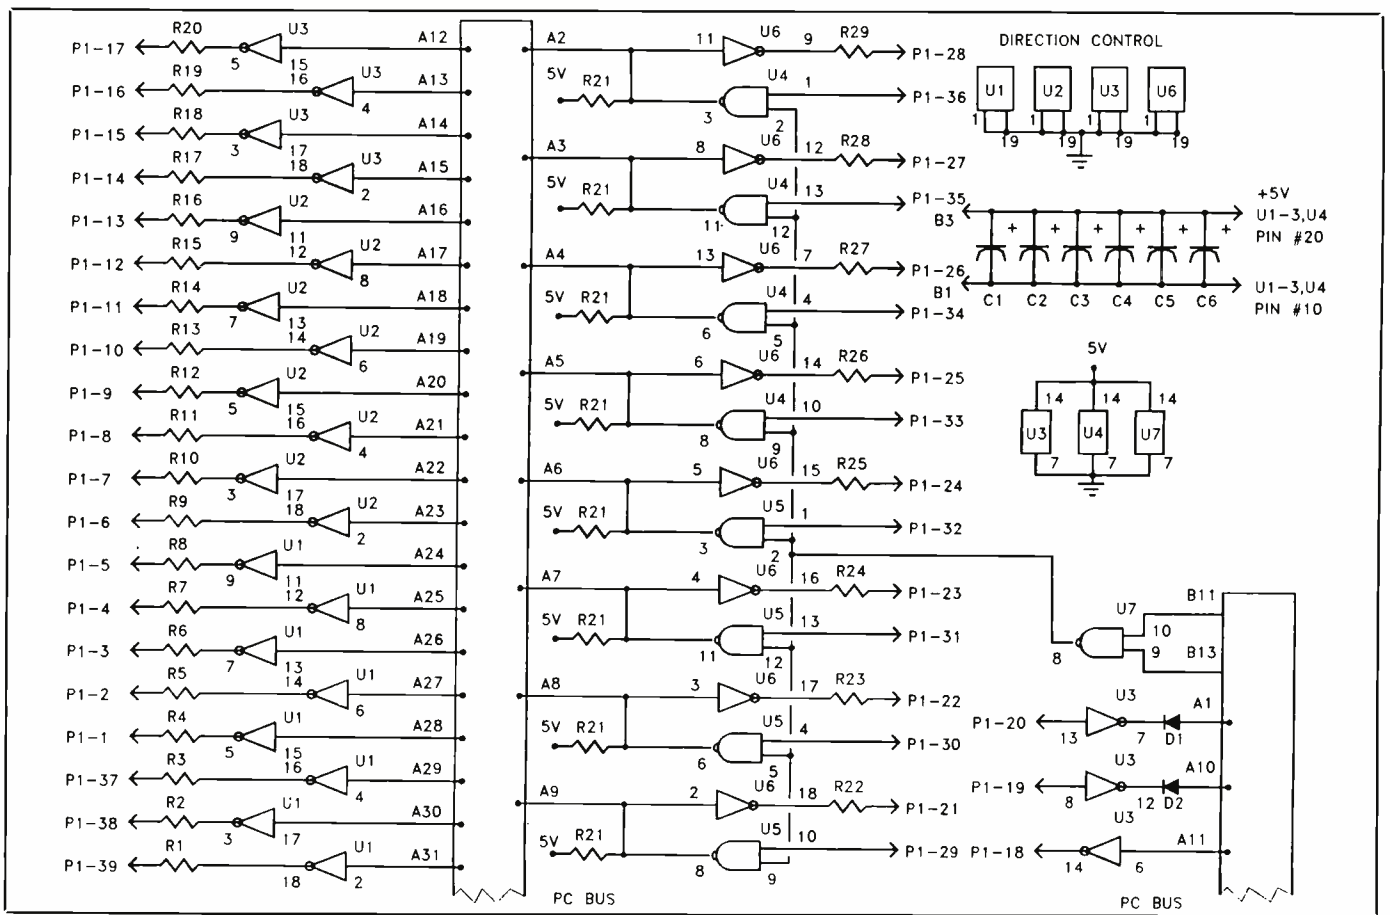
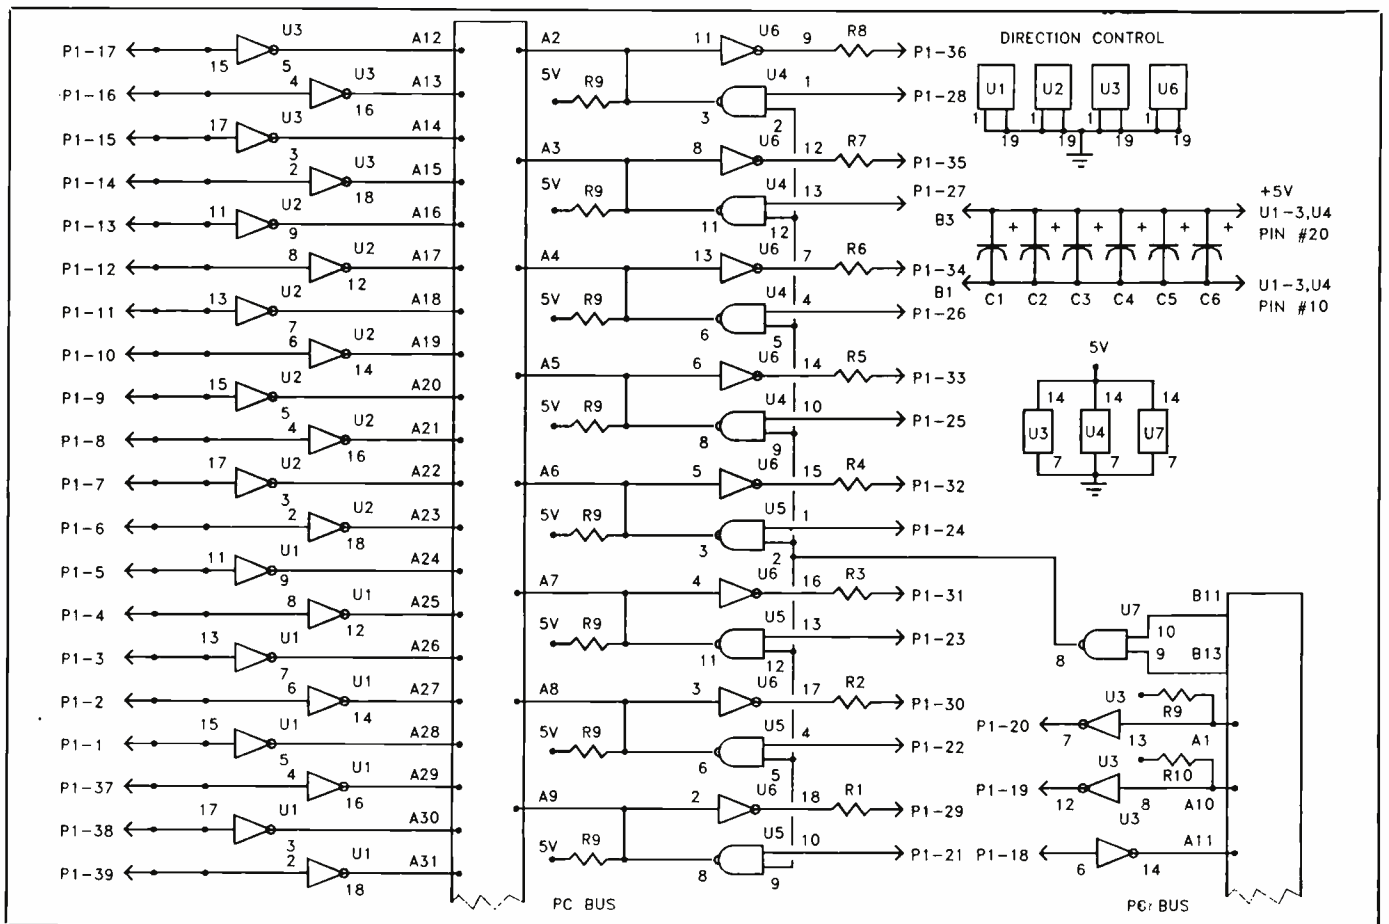

Fig. 5. Schematic details of Data Master Card circuitry.
Fig. 6. Schematic details of Data Slave Card circuitry.
• **Data Cards.** In Fig. 5 and Fig. 6 are shown the schematic details of the circuitry on the Data Master and Data Slave Cards. In the Fig. 5 Data Master Card circuit, the PC bus connector is shown as an outline in the center. Recall that side "B" of the PC bus connector is composed primarily of control signals. Side "A" contains the address and data signals and a few control-line signals.
In Fig. 6, the buffers are reversed and the resistors are replaced with wire jumpers. The buffers now condition the received signals coming from the Data Master Card and apply the reconstructed address signals to the CYANCE Bus.
At the right in Fig. 5, inverter/buf-
In Fig. 5, the data transmit lines come from the buffers at the right and have damping resistors in series with them. Just below each data-transmit line is the data-receive line that feeds one input of the NAND gate. If data signals are being sent from the PC bus to the CYANCE Bus, as in Fig. 5, for
example, the data is simply buffered and placed directly on the interconnect cable. Likewise, in Fig. 6, the Data Slave Card directly buffers the returning data of the CYANCE Bus.